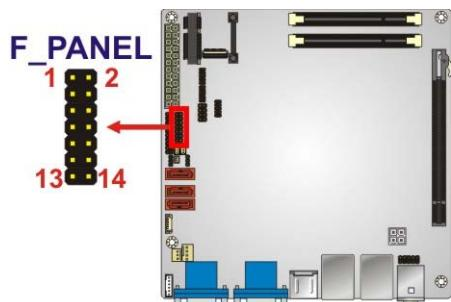

Figure 3-13: Front Panel Connector Location
**CN Location:** See Figure 3-13